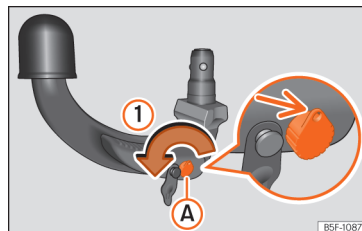

Fig. 264 Step 1.
- Turn the key in the direction of arrow ① until the part of the key with the holes reaches the top position »» Fig. 264 (arrow).